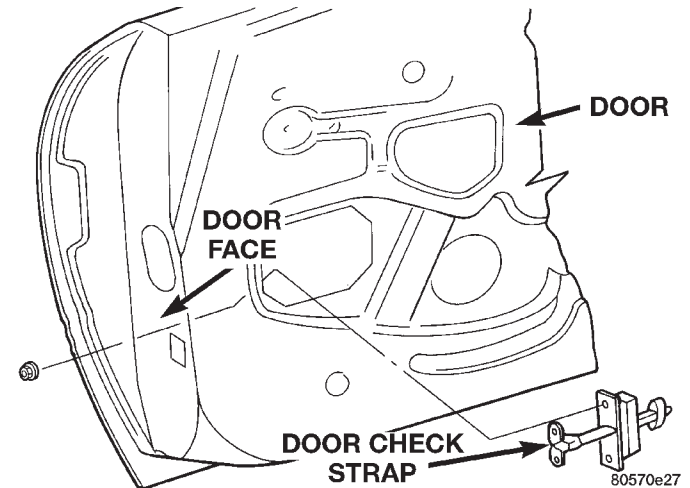

Fig. 29 Door Check Strap
- (1) Remove door trim panel.
- (2) Remove watershield as necessary to gain access.
- (3) Remove bolts holding check strap to lower A-pillar.
- (4) Remove bolts holding check strap to door end frame (Fig. 29).
- (5) Separate door check strap from vehicle.